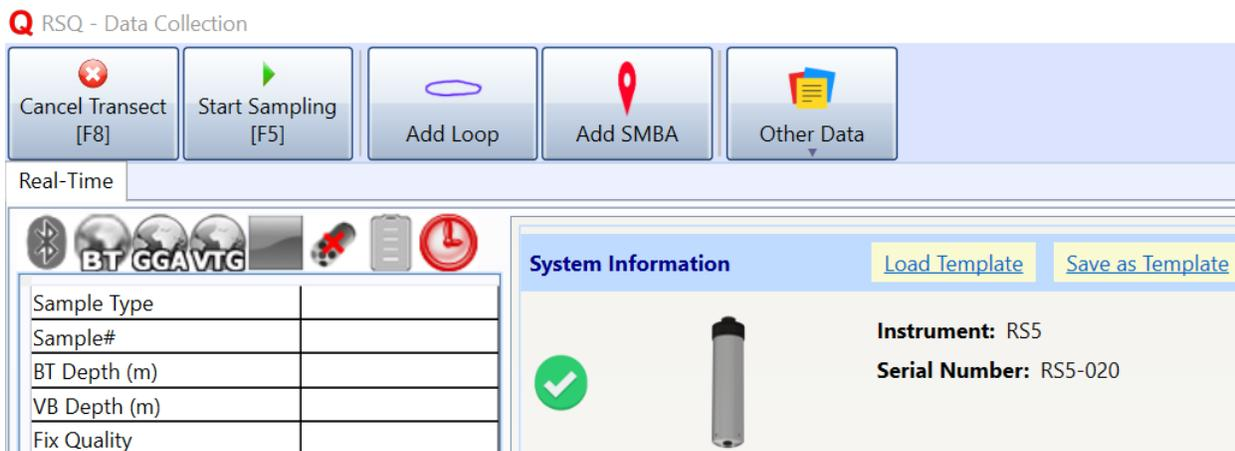
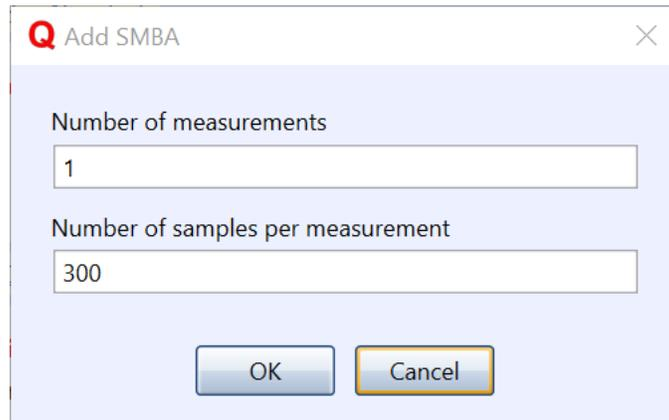
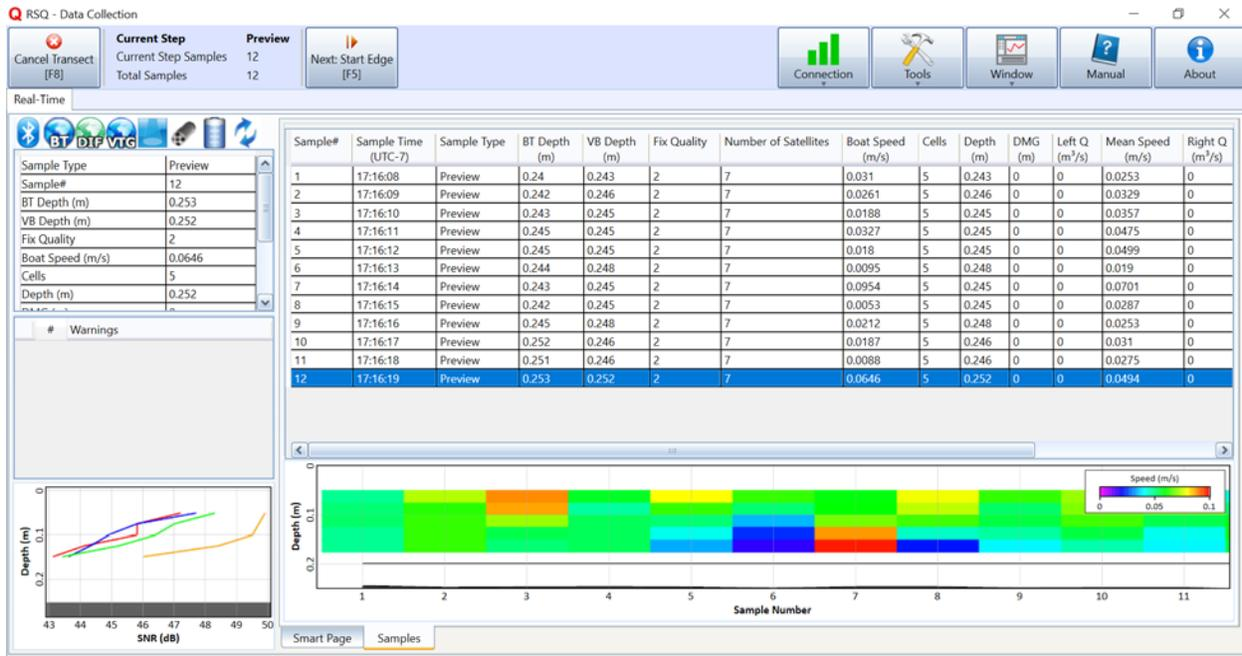

Figure 70. Options for Beginning Data Collection
Figure 74. Start SMBA Dialog
Figure 78. Start Sampling Preview
After completing the Pre-measurement tests and initial site specific entries to configure the System from the Smart Page, begin the measurement procedure. From the Smart Page screen, the main toolbar will offer various choices to begin a measurement, as shown in Figure 70. Depending on the measurement procedure, the user may be required to perform a moving bed test (Loop or SMBA) prior to collecting transects, or they may proceed to start the main measurement directly. The software provides a step-by-step procedure outlined below. Each step is explained in detail in the following sections.
1. To begin an SMBA moving bed test, press the Add SMBA button from the Smart Page (shown in Figure 70). The dialog shown in Figure 74 will appear.
From the Smart Page, click the Start Sampling button (or use [F5]) to begin data collection (Figure 70). Alternatively, sampling can begin from the Loop or SMBA dialogs by choosing to proceed to the Start Edge. The data preview display will appear (Figure 78).